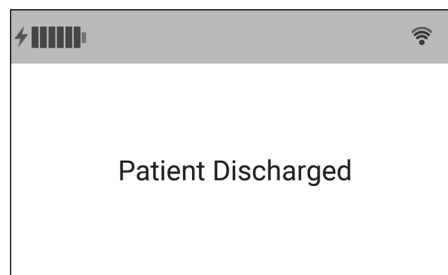

Figure 15. Patient discharge screen
3. A patient discharged screen will appear for several seconds. (Fig. 15)